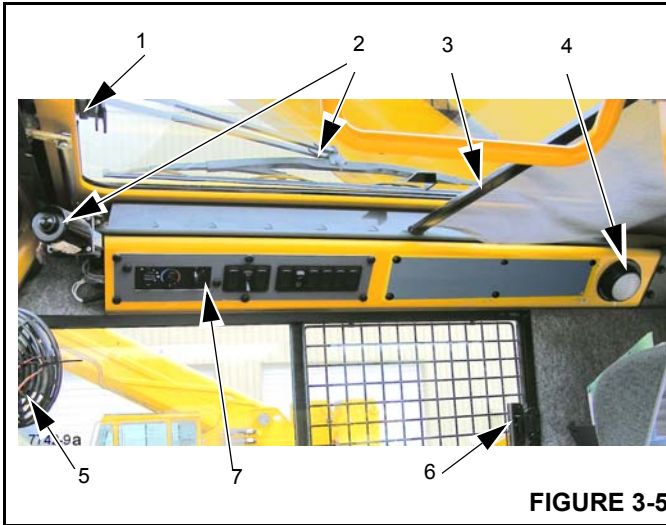
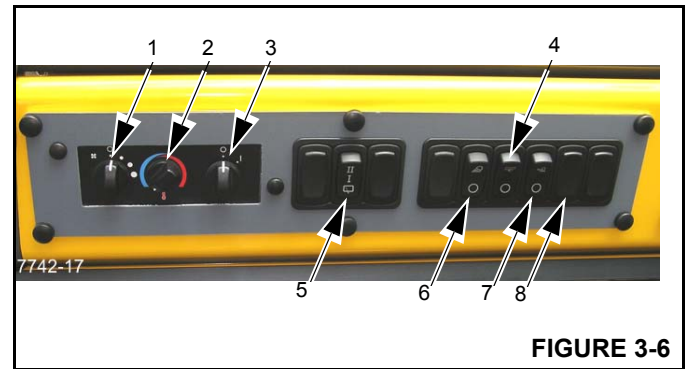

FIGURE 3-5
FIGURE 3-6
Refer to Figure 3-5.
The Skylight Wiper (2) is controlled by the wiper switch, (5) (Figure 3-6), and operated by the indicated motor.
Refer to (7) Figure 3-5 and Figure 3-6.